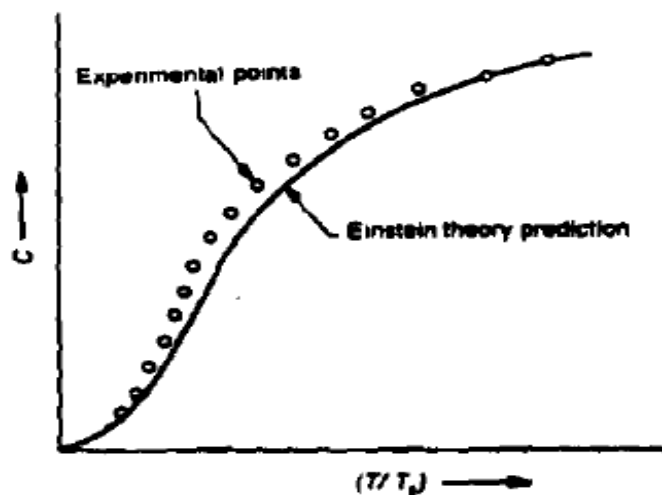

Fig.3.22 Heat capacity versus temperature plot for copper at low temperatures as predicted by Einstein's theory and as obtained experimentally.
Note that C_v is a function of (T_E/T) . You may now like to investigate the nature of temperature dependence. For copper, a plot of Eq. (10) is shown in Fig.3.22. You will note that this relation reproduces all the general features of the observed curve. Now, let us consider the nature of temperature dependence in two limiting cases: at high temperatures ($T \gg T_E$) and at low temperatures ($T \ll T_E$).